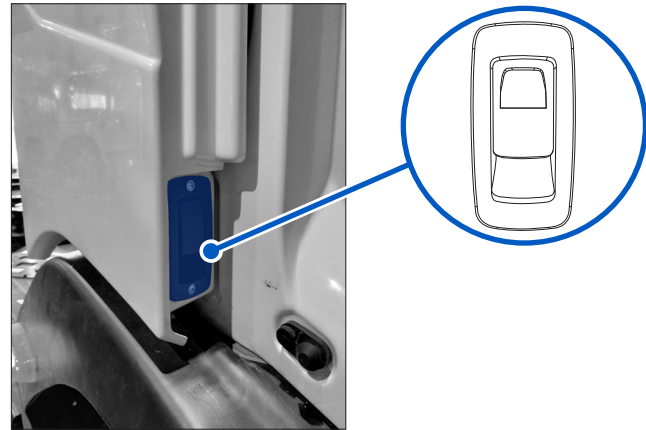

Figure 11 - Accessory compartment access panel handle
4. Locate the handle at the bottom of the accessory compartment access panel (**Figure 11**).